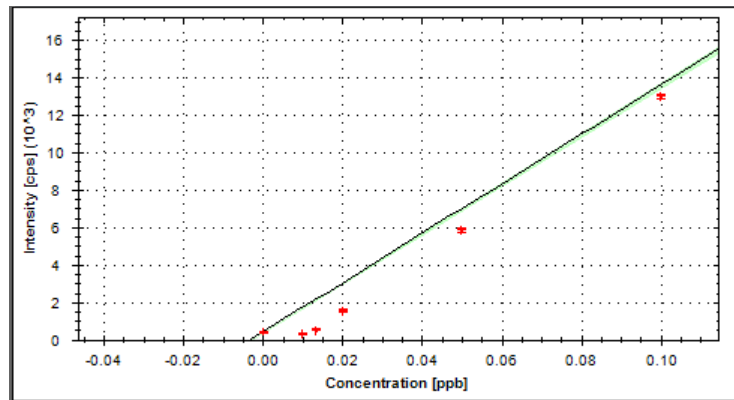

FIGURE 6-1 Typical Calibration Curve When the Syringe Is Loose
- Make sure that the syringe plunger is fully attached to the arm. Make sure the locking nut is tight—but tighten it only with your fingers. Any gaps will result in dilution errors, due to the arm moving slightly before the plunger. FIGURE 6-1 shows the kind of dilution errors that can result when the syringe locking nut is loose.